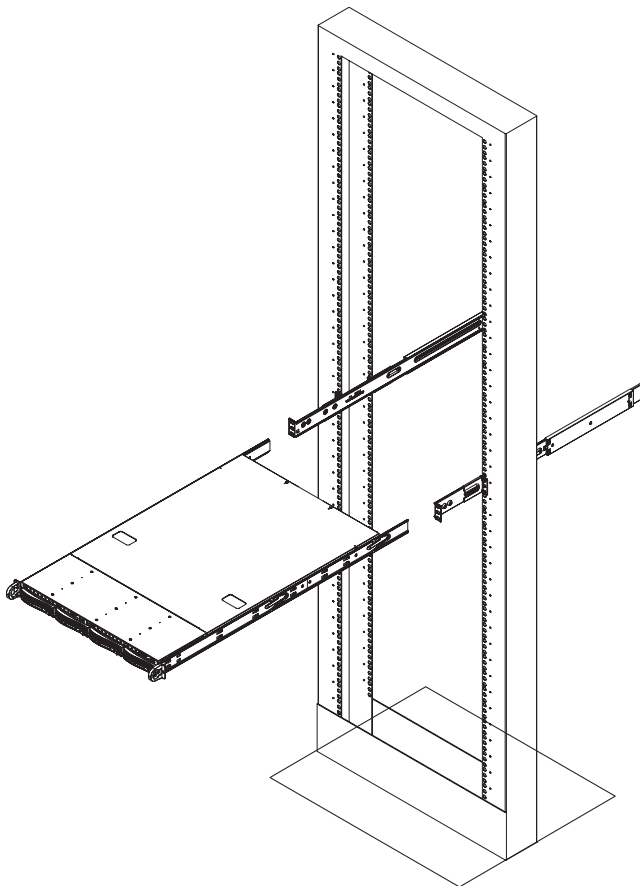

Figure 2-8 Install the Server in a Third-party Rack (1)
1. Slide the server onto the outer rack rails (refer to Figure 2-8).